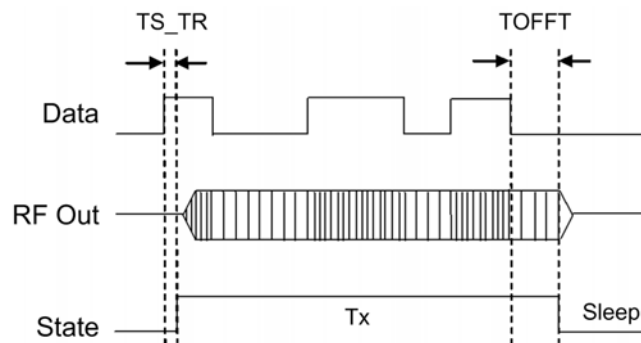

Figure 2. ‘Power & Go’ Mode: Transmitter Timing Operation
**Automatic Mode** operation is described in Figure 2. Here we see that a rising edge on the DATA pin activates the transmitter start-up process. DATA must be held high for the start-up time (TS\_TR) of the SX1243. During this time the SX1243 undergoes an optimized, self-calibrating trajectory from Sleep mode to Transmit mode. Once this time has elapsed, the SX1243 is ready to transmit. Any logical signal subsequently applied to the DATA pin is then transmitted.